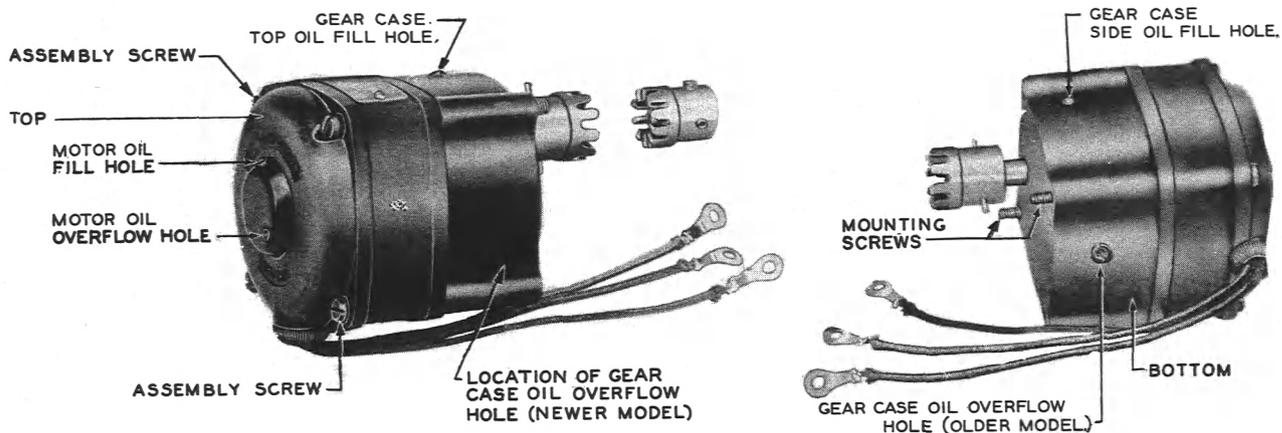
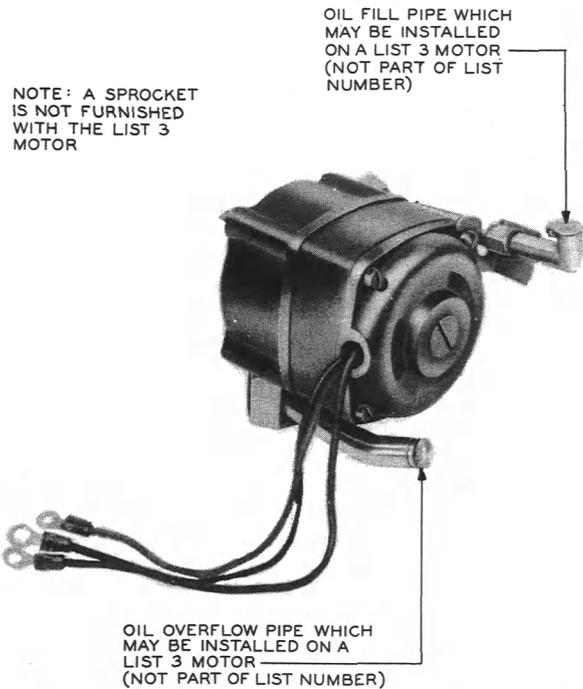

Fig. 1 - KS-5559, Lists 1 and 6 Motor (Holtzer-Cabot Shown)
Fig. 2 – List 3 Holtzer-Cabot Motor Modified by Pipes Attached to Oil Fill and Overflow Holes in Gear Case
1.06 Lists 1 and 6 have sleeve bearings and both halves of a multijaw coupling (Fig. 1); list 3 has ball bearings (Fig. 2); lists 4 and 5 have sleeve bearings, a sprocket on the shaft extension, and oil pipes (Fig. 3). All list numbers include a capacitor.
(3) **Gear Case:** The gear case is shipped with screws in the oil holes. If there is a screw in the overflow hole (Fig. 1), it should be removed before putting the motor in service. Either the hole on the side near the top or on the top should be used for a filling hole.
(4) In some cases where space is limited, use an offset screwdriver to remove screws. A screw should be kept in whatever hole is selected as the oil fill hole and should be removed only when oiling. Keeping the fill hole covered prevents dirt and dust from being wiped into the hole during cleaning and then washed into the gear case when oiling.
(5) When oil holes in the gear case are furnished with pipes, remove the cap from the lower pipe, add oil in the upper pipe until it flows from the lower pipe, then replace cap on lower pipe.
(6) In cases where equipment is mounted below the motor, it is advisable to hold a cloth under the drain hole or pipe to prevent oil from leaking on equipment.
3. To add information for KS-5559, Lists 5 and 6 motors. 1.06, Fig. 1, and Fig. 3.